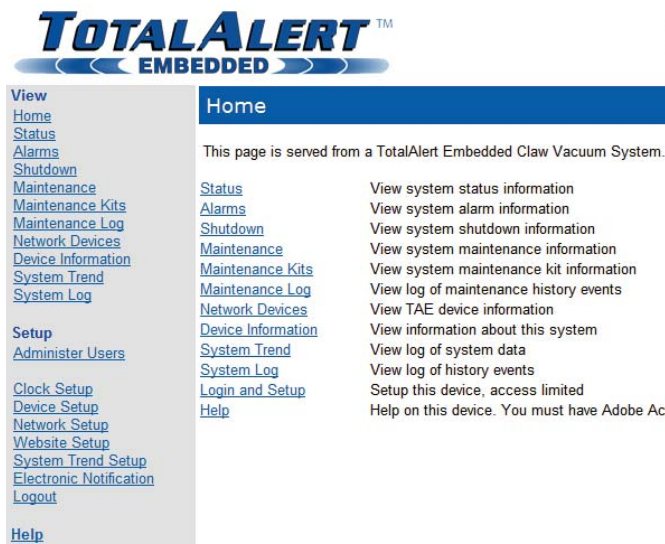

Figure A.30 Setup Menu
4. The left sidebar will now contain the setup links (Figure A.30).